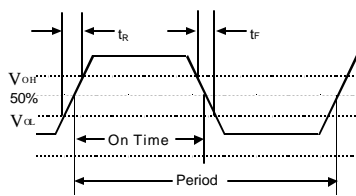
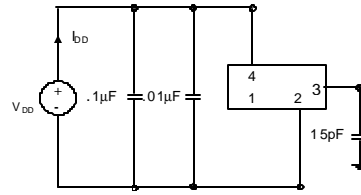

Figure 1. Output Waveform
Figure 2. Output Test Conditions ($25 \pm 5^\circ\text{C}$)
2. Figure 1 defines these parameters. Figure 2 illustrates the operating conditions.
3. Duty cycle is defined as (on time/period) per Figure 1.